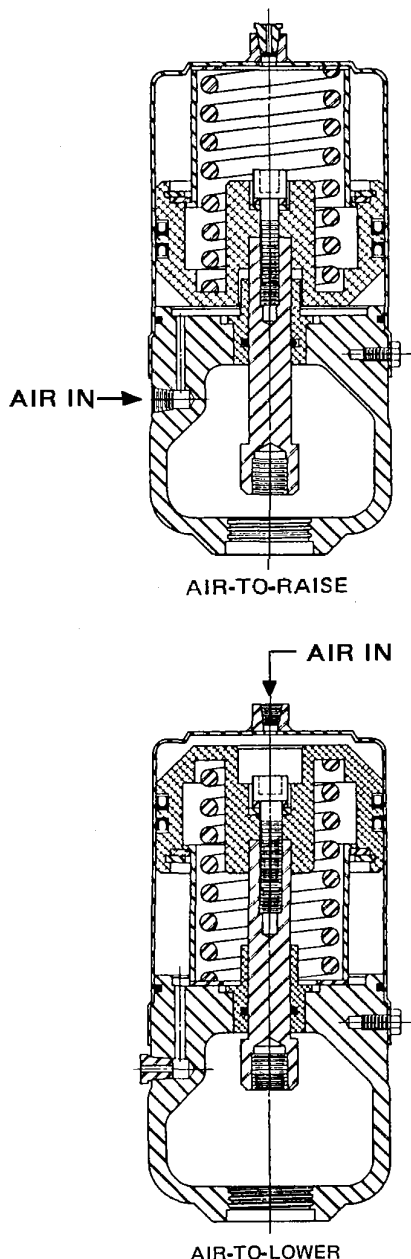

Figure 4. Air Line Connections for Two Position Actuators
1. For two position actuators, make the connection as shown in Figure 4.